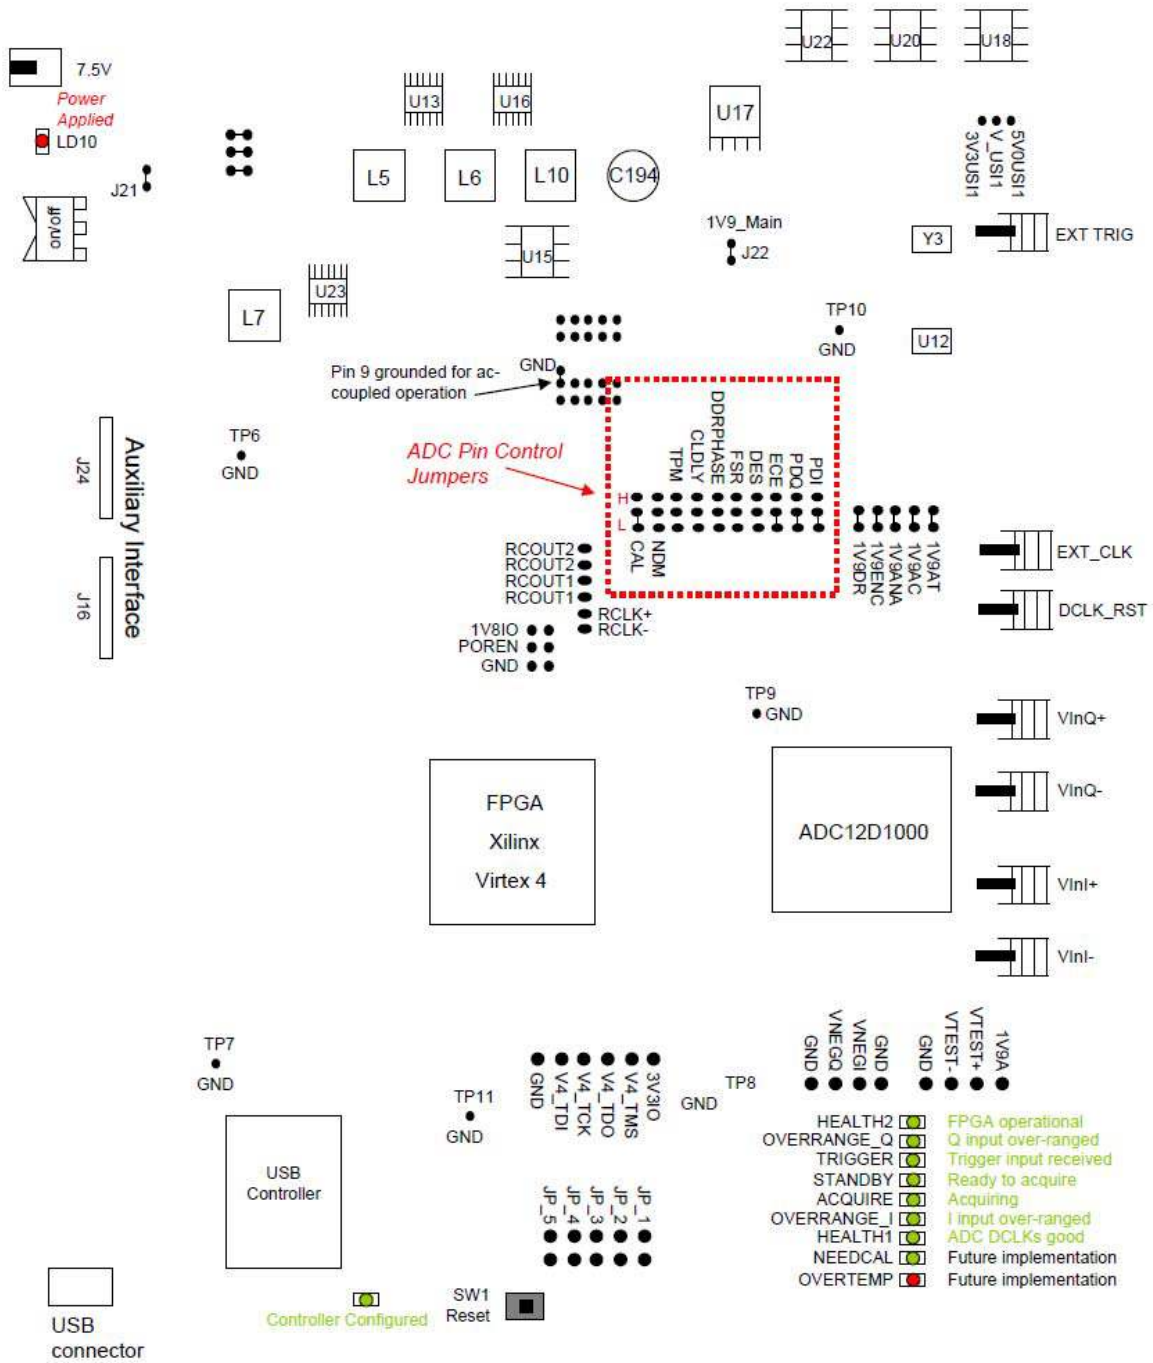

Figure 2: Jumpers and LEDs
2. Make sure the board's jumpers are configured as follows as shown in Figure 2:
Prior to capturing data, confirm that the board is in the "ECE (Extended Control Enable)" mode, The ECE jumper is located in the ADC pin control jumper area as shown in Figure 2. The board should be sent with this jumper in place. This means that the ADC will be controlled through the SPI interface and not with jumpers driving the control pins. This allows the user to control the ADC's behavior through the WaveVision 5 Registers panel.